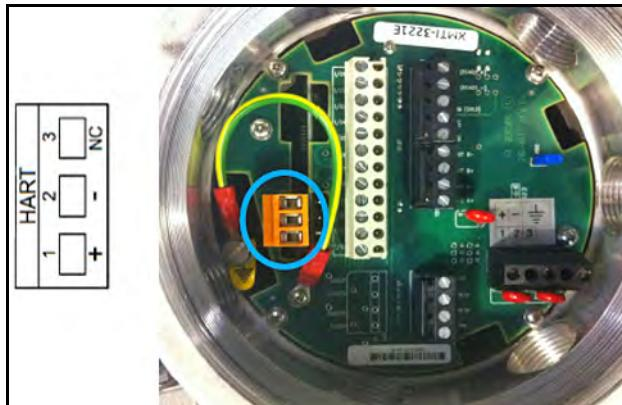

Figure 54: PCB Output for HART Card
**Note:** For XGM868i, XGS868i and XMT868i flow meters the HART device connections are found on the PCB output for HART card installed in Slot 2. Note the polarity of signals (pin 1 HART+, pin2 HART- on Figure 54 below.